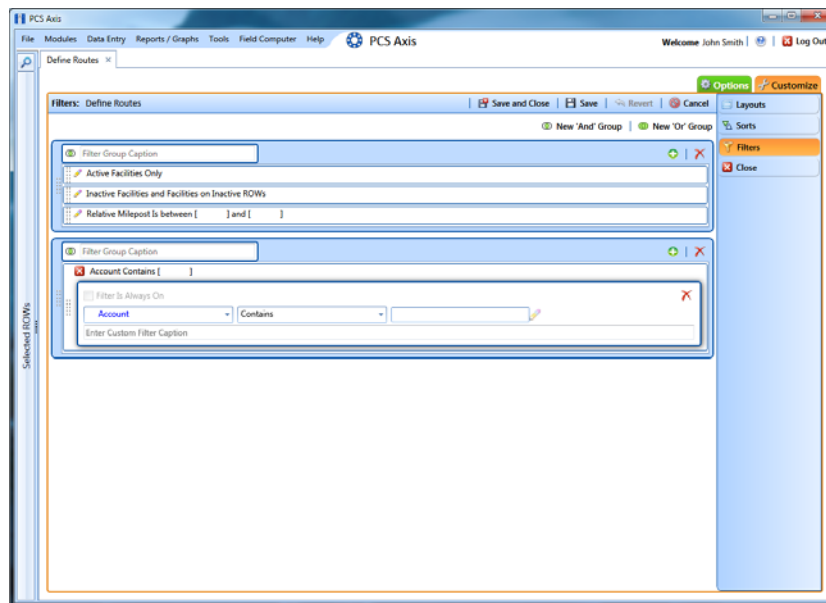

Figure 7-50. Filters
- 4 Click  **New 'And' Group** to open a filter properties group box (Figure 7-50).